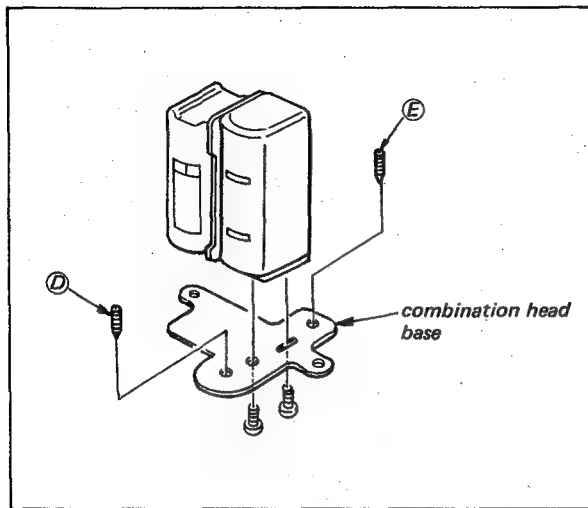
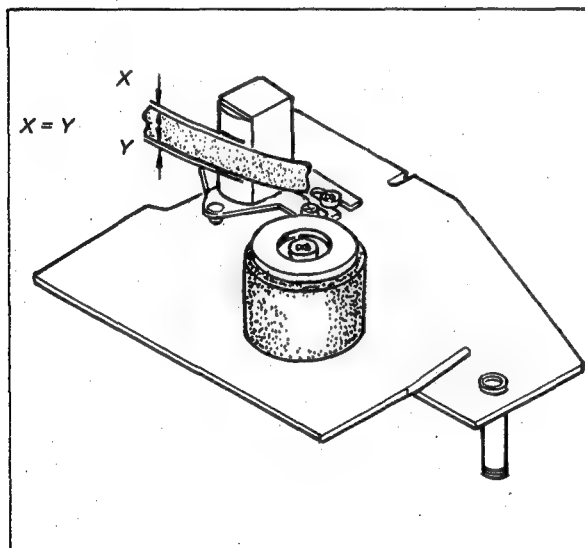

Fig. 4-13. Combination head replacement
Fig. 4-14. Combination head height check
3. Remove the defective head ass'y from the head base. See Fig. 4-13. Also remove screws (D) and (E), shown in Fig. 4-13.
5. When the new head ass'y is installed, turn screw (A) until it is tight. Adjust screw (B) so that the head gaps appear (by eye) to be perpendicular to the deck.
6. Play a tape and check that the core of the head extends an equal amount above and below the edges of the tape. See Fig. 4-14. Adjust height and tilt screws (D) and (E) as necessary until this condition is achieved.
8. Play back the 7 kHz segment of a SONY alignment tape and adjust the azimuth screw (B) and the tilt screw (E) for maximum output as indicated on the VTVM (maximum output at 7 kHz).